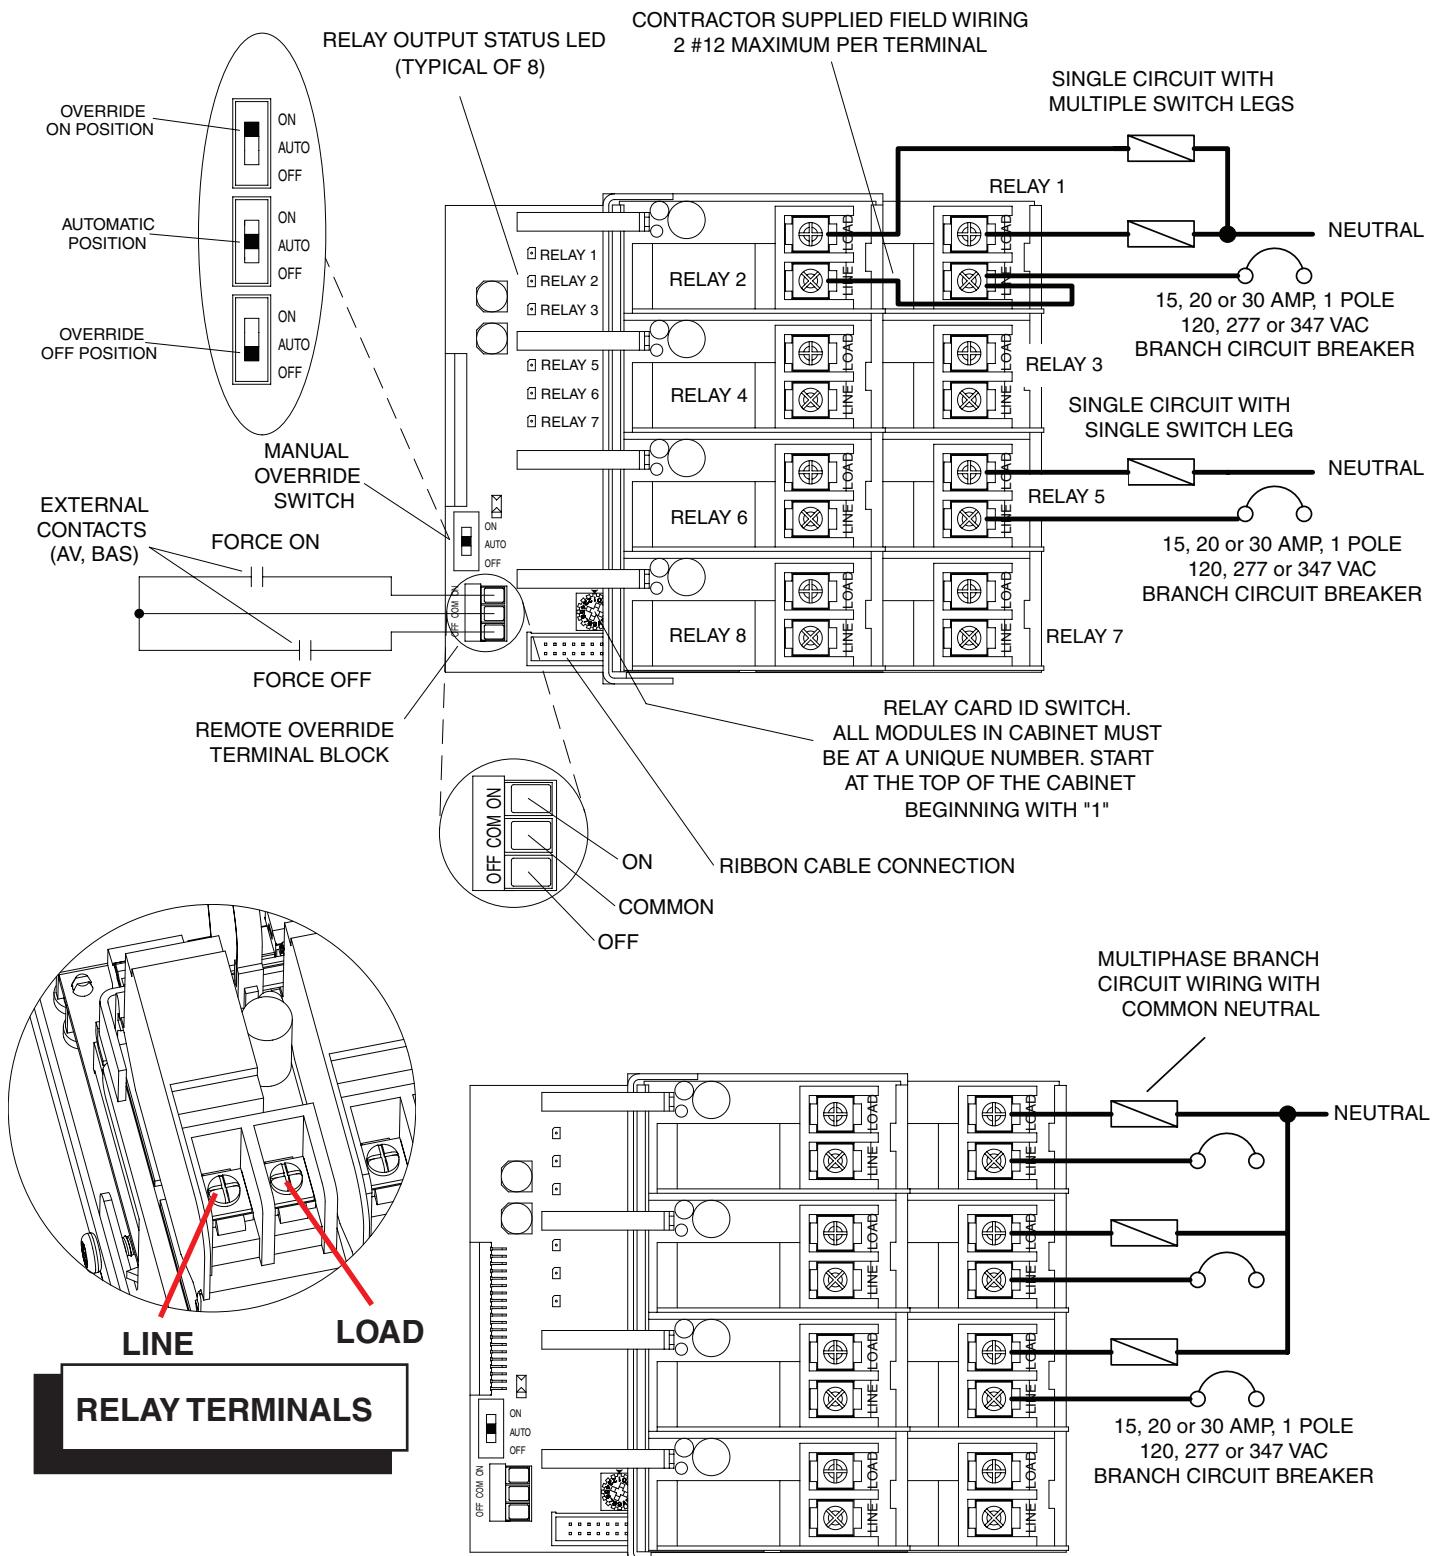

Figure 1 - SYPM 8L DSO (No Switch Inputs) Switching Only Wiring Detail
Rotate the relay card ID switch to the address 1 position. (See Figure 1) Plug the male connector on the ribbon cable into the female socket on the relay module. Ribbon cable installs behind the modules.
Connect the terminal labeled LINE on each relay to an appropriately sized, single pole branch breaker. A single branch breaker can be connected to multiple LINE terminals if required. Make load wiring connections per Figure 1.
Connect each module input lug to an appropriately sized conductor. Use the module's feed through lug to connect additional modules to an input circuit on the same phase. See Figure 1 for load connection details and Figures 3 and 4 for typical feed wiring details.
2. Verify "MANUAL OVERRIDE SWITCH" is in the ON position. (See Figure 1)